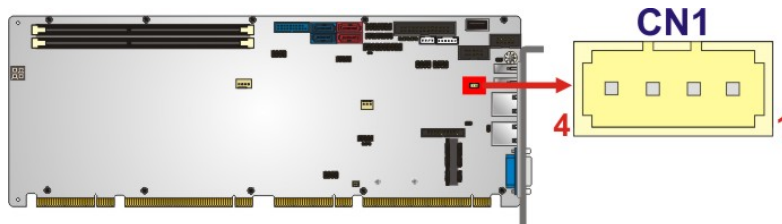

Figure 3-12: I²C Connector Location
- CN Location:** See Figure 3-12